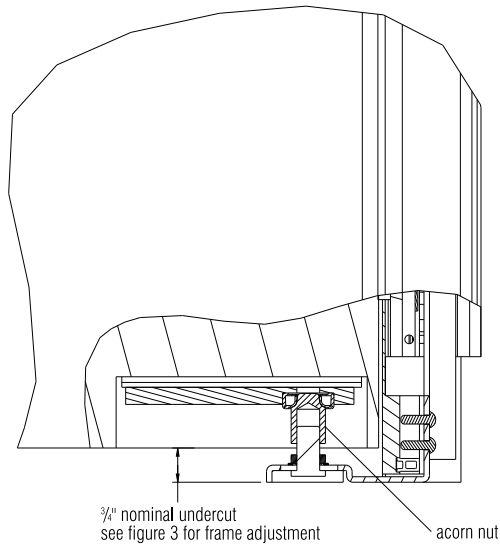

Figure 4
5. The nominal undercut of the door is 3/4". Additional adjustment for the pivot door can be achieved by raising and lowering the acorn nut (Figure 4).